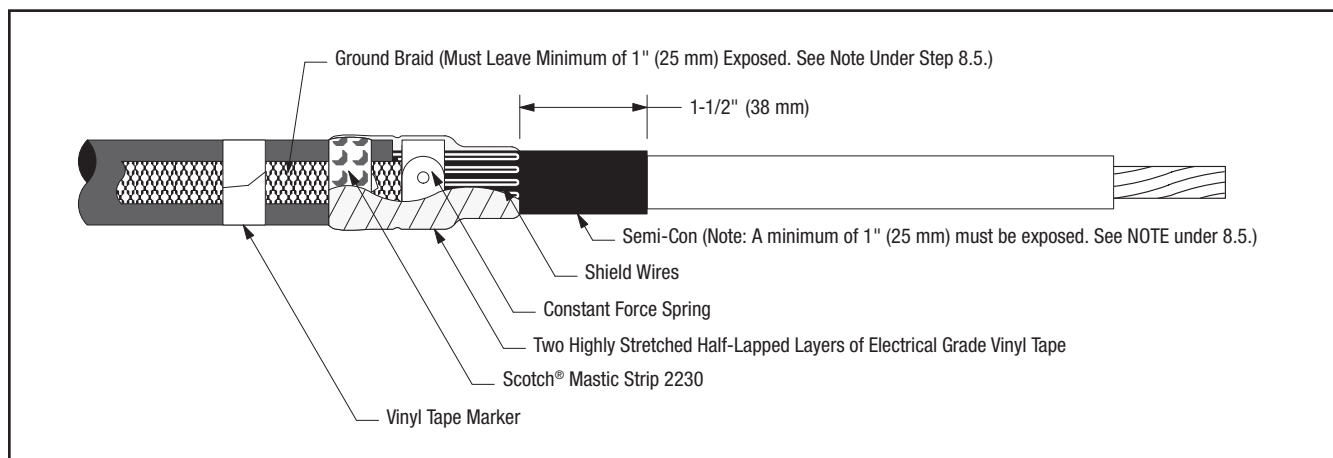

Figure 14
- 8.5 Wrap two highly stretched half-lapped layers of electrical grade vinyl tape around mastic seal, constant force spring and exposed shield wires (Figure 14).